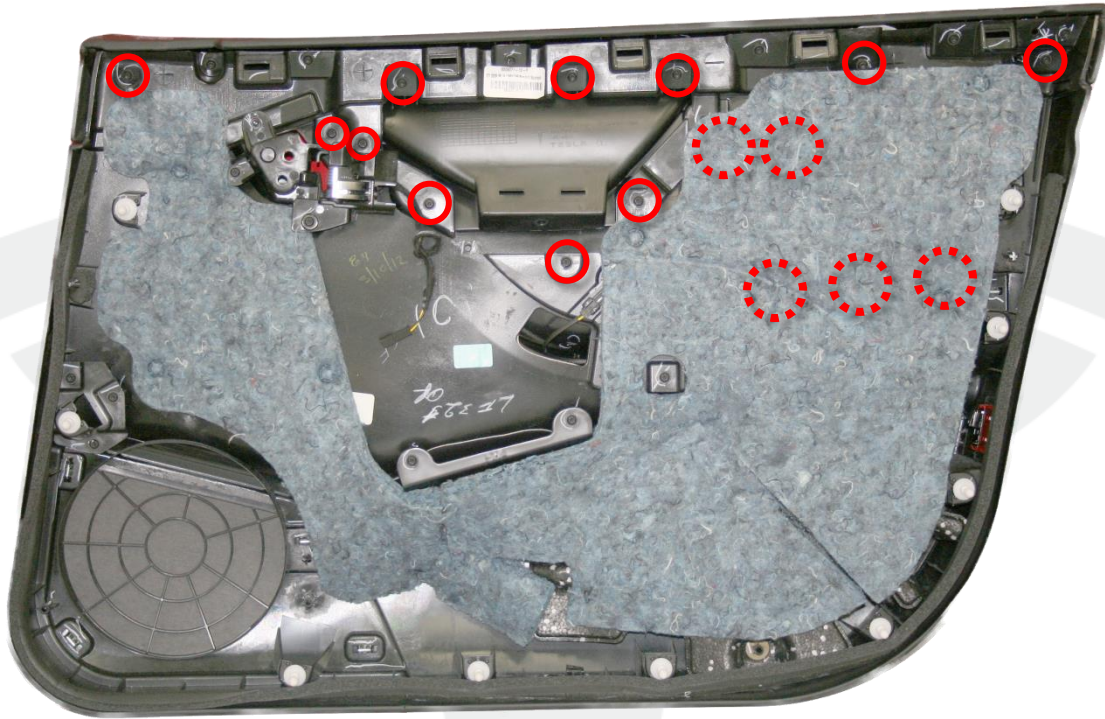

Figure 1
4. Remove the 16 screws that hold the door trim insert in place (torque 3 Nm) (Figure 1).